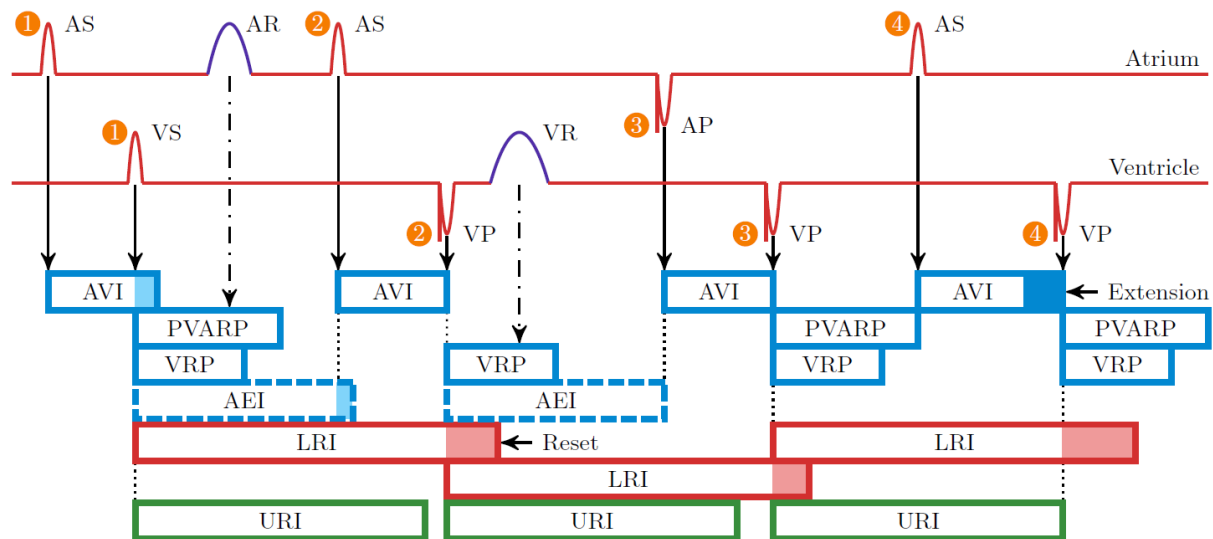

Figure 1: Timing Diagram of a DDD Mode Pacemaker. Note that some timers have been omitted at times for readability. Reproduced from [4]
Figure 1 shows how these timers interact with the heart in a DDD mode pacemaker. The first two graphs are the Electrograms (EGMs) of the heart, from both the atrium and ventricle, which the pacemaker is processing. These graphs have been annotated with whether the events are AS/VS signals that are accepted, AR/VR signals that are ignored, or AP/VP signals that are generated by the pacemaker.
The lower half of Figure 1 shows each of the previously described timers in operation. Here, the length of each box is its maximum value, while any lightly coloured portion of the box is any un-used part, after the timer has been reset early. Examples of this include resetting the AVI timer when a VS signal is received (1), resetting AEI when an atrial signal is received (2), or resetting LRI when a subsequent ventricular event occurs (2).